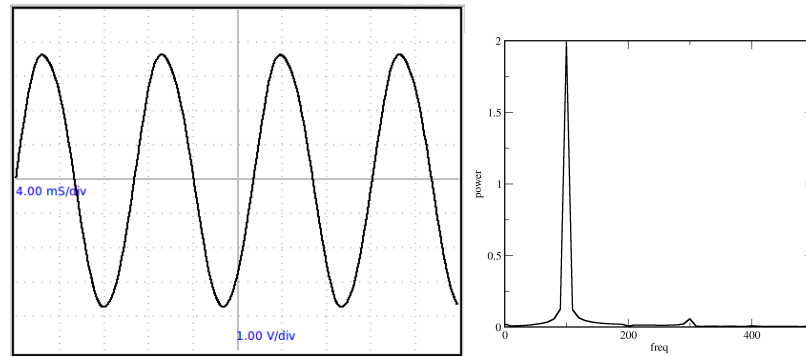

Figure 2.20: (a) Sine wave. (b) Frequency spectrum by Fourier transform.
- The sinewave and its Fourier transform are shown in figure 2.20.